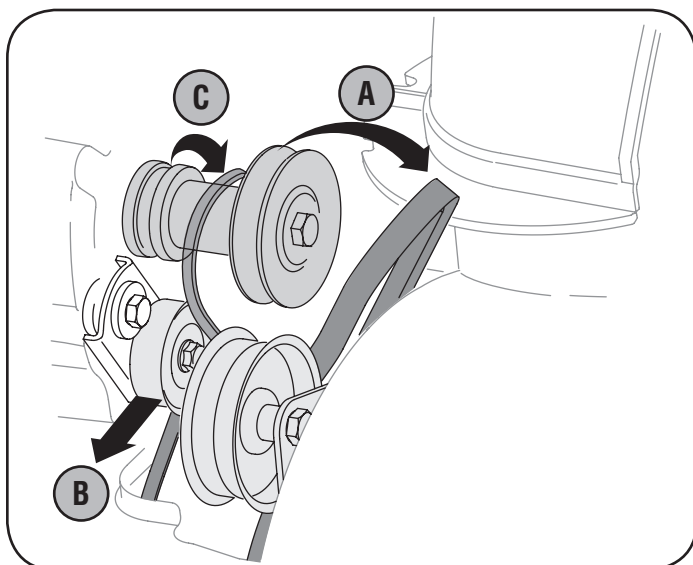

Figure 35
3. Remove the belt from engine pulley as follows. Refer to Figure 35.